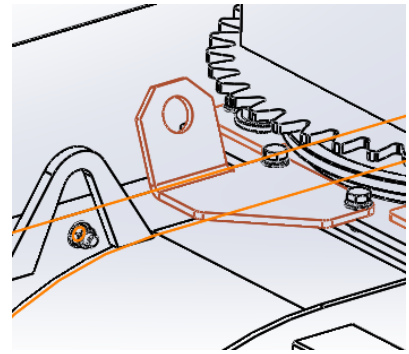

FIGURE 8: *Front bracket installation location*
- a. Locate the front bracket on the position shown in the **Figure 8**, and then fix it with M10x25 bolt, plain washer 10 and spring washer 10